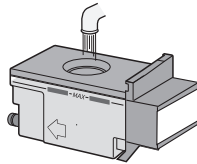

Figure 2
3. Fill the water tank as per Figure 2. Only use room temperature drinking water and ensure you fill the tank to the MAX mark (do not over fill) (Figure 2) Do not fill the water tank over the MAX mark.